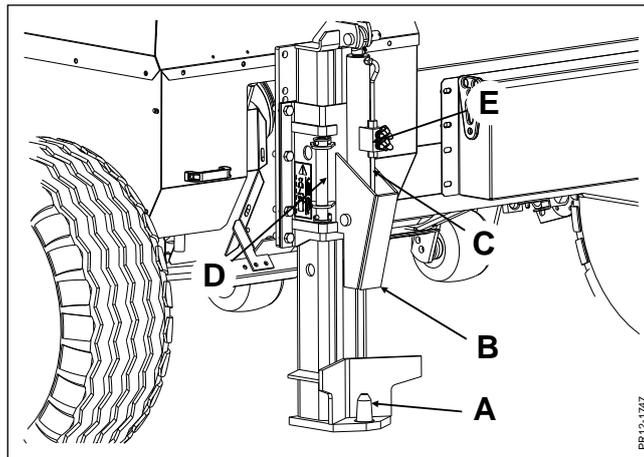

Fig. 3-3
**Fig. 3-3** The hydraulic hitch **B** is equipped with a hitch hook **A** which is raised and lowered hydraulically by a double-acting cylinder **C**. The hoses from the cylinder **C** are connected to the valve chest on the forage harvester. Now the hydraulic hitch **B** can be operated with one of the 3 toggle switches at the front of the control box.
**Fig. 3-3** For connection of the trailer the machine must be reversed to the drawbar of the trailer. The hitch hook **A** must be lowered and the hitch eye of the trailer is caught by the hitch hook. Lift the trailer with the hydraulic cylinder **C** until it reaches its bottom position. A hydraulic locking valve **E** which is mounted on the cylinder **C** ensures that the hitch hook **A** stays in the raised position. If the trailer is equipped with plugs for lighting and hoses for tipping and brakes these should be mounted subsequently.